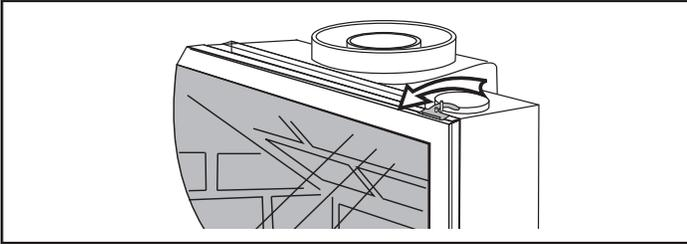

Figure 59 - Release the latches to release the glass frame.
1. Remove stove front. Lift stove front up and then swing bottom out and away to disengage from the stove body. (Figure 59)
2. Swing open the swiveling latches at the top left and right corners of the glass frame. (Figure 59)
Replace glass only with Hearth and Home Technologies approved parts. Refer to Page 32 for Replacement Parts. Refer to Figure 59 and previous instructions for removal of the damaged glass frame.
1. Remove the Front, Glass Frame and Glass Panel. (Figures 59 & 60) Remove the old gasket. Use a razor blade to separate the glass and gasket from the frame, and to clean the glass of any remaining cement or bits of gasket. Use a cold chisel if necessary.